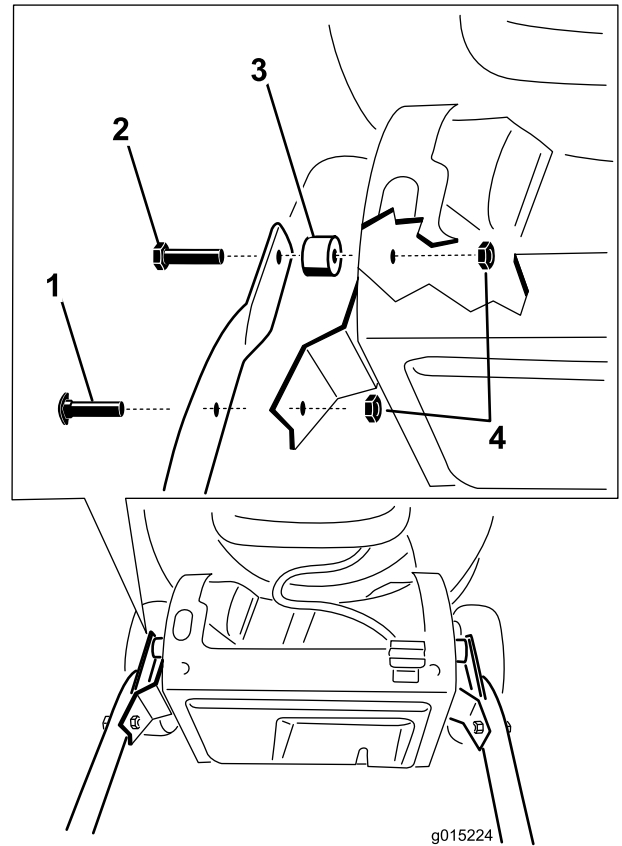

Figure 4
2. Attach the handle to the deck of the machine (Figure 4) using the 4 bolts, 4 locknuts, and 2 spacers in the loose parts bag.